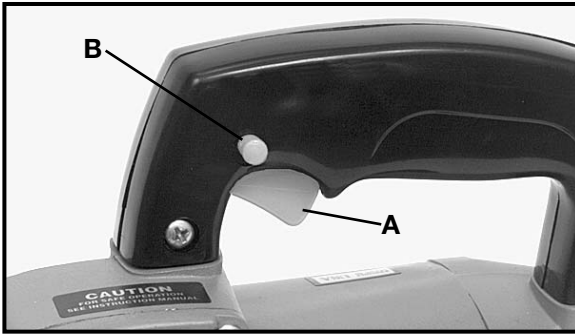

Fig. 2
2. Squeeze switch trigger (A) Fig. 2 to start motor. Release trigger to stop motor. This saw has a variable speed switch, as the switch trigger is squeezed, the speed of the saw blade increases.
3. Lock Button – A lock button (B) Fig. 2, is provided to keep the saw running at the fastest speed without holding the switch trigger "ON". To lock the switch trigger on, squeeze the trigger as far as it will go and push in the lock button and release trigger.